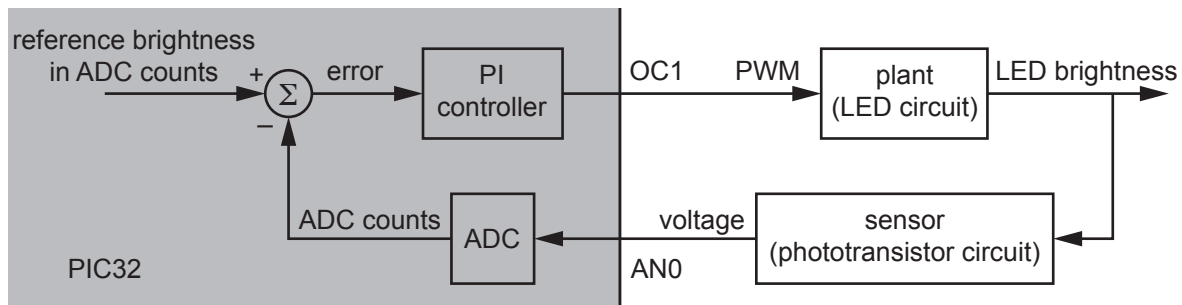

Figure 12.2: A block diagram of the LED brightness control system.
A block diagram of the control system is shown in Figure 12.2. The PIC32 reads the analog voltage from the phototransistor circuit, calculates the error as the desired brightness (in ADC counts) minus the measured voltage in ADC counts, and uses a proportional-integral (PI) controller to generate a new PWM duty cycle on OC1. This in turn changes the average brightness of the LED, which is sensed by the phototransistor circuit.